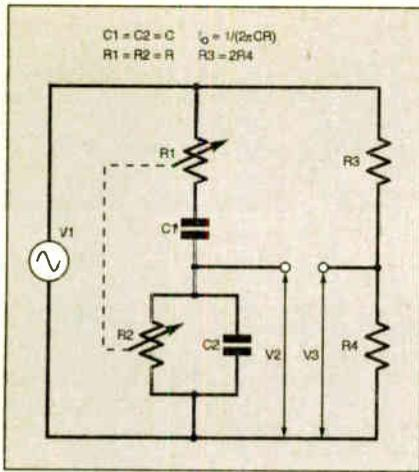
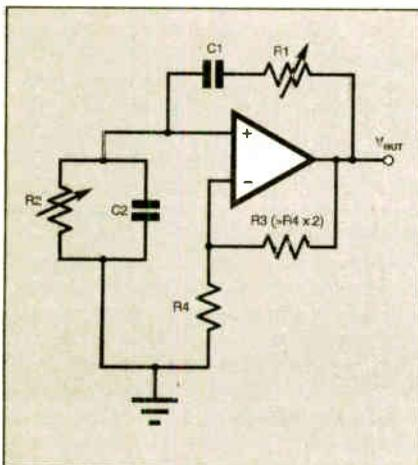
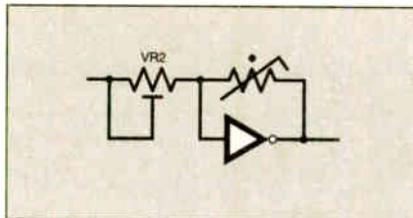
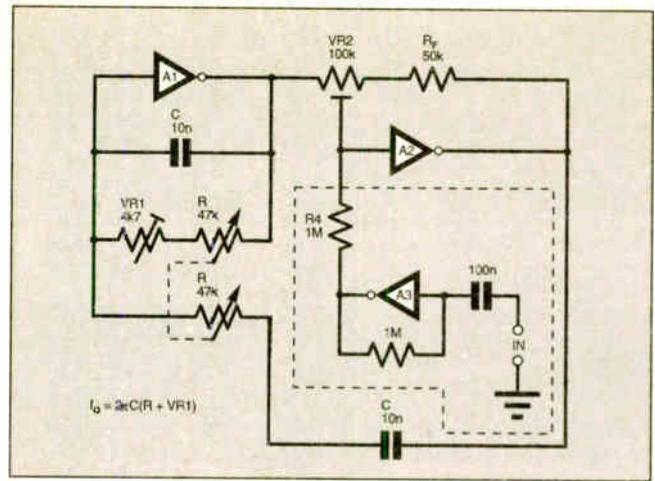

Fig.13. Wien bridge.
Fig.14. Wien bridge oscillator using an operational amplifier.
Fig.16. Using a thermistor in place of  $R_F$  in Fig.15.
Fig.15. Inverter gate version of Wien oscillator. The A3 section can be added to inject an external synchronising signal.
The reactive (RC) arms of a Wien bridge (Fig.13) can be used to set the frequency of a sine wave oscillator formed around an op.amp (Fig.14). In a Wien bridge, when  $R1 = R2$ ,  $C1 = C2$  (the usual case) balance (zero output) is obtained when  $V2 = V3$ , in which case C then has a reactance equal to R.
In oscillators, use is made of the fact that RC arms of the bridge form a frequency-selective voltage divider whose output is greatest at  $f_o$ . At frequencies away from  $f_o$ , output falls. When this network is used as a positive-feedback path in an amplifier (Fig.14) and the gain is just sufficient for oscillation, a sine wave at  $f_o$  is generated.
The standard circuit (Fig.14) does not translate into inverter-oscillator form because an inverter has only one input terminal. It can, however, be adapted to a 2-inverter circuit, as illustrated in Fig.15.
No device for automatic amplitude limiting is shown in Fig.15. The job could be done by substituting a thermistor for the feedback resistance across A2 as in Fig.16. VR2 would then provide oscillation level adjustment and should have a mid-value equal to the working thermistor resistance.
If very low distortion is not required, a fairly good sine wave can be obtained from the circuit as shown in Fig.15 if set-up carefully, as follows: